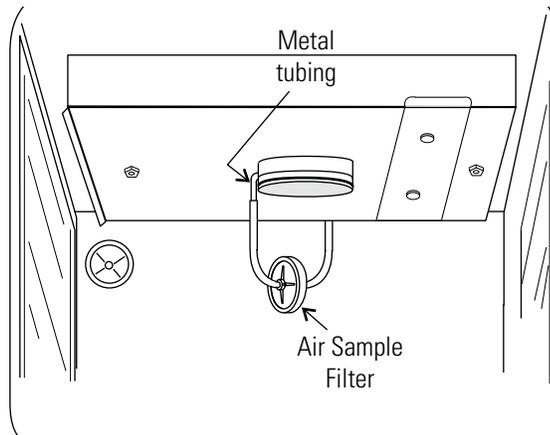

Figure 5-8. Connect to Metal Tubing
4. Figure 5-8 shows the location of the fuse. See Table 5-1 following for replacement fuse specifications.